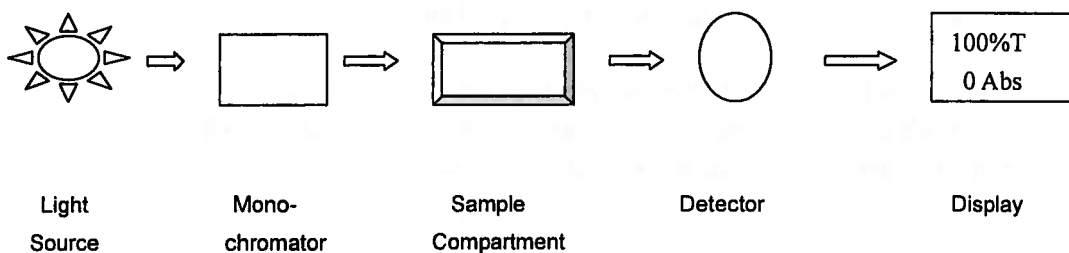

Fig1-1
- 5) A digital display to indicate absorbance or transmittance. The block diagram (Fig 1-1) below illustrates the relationship between these parts.